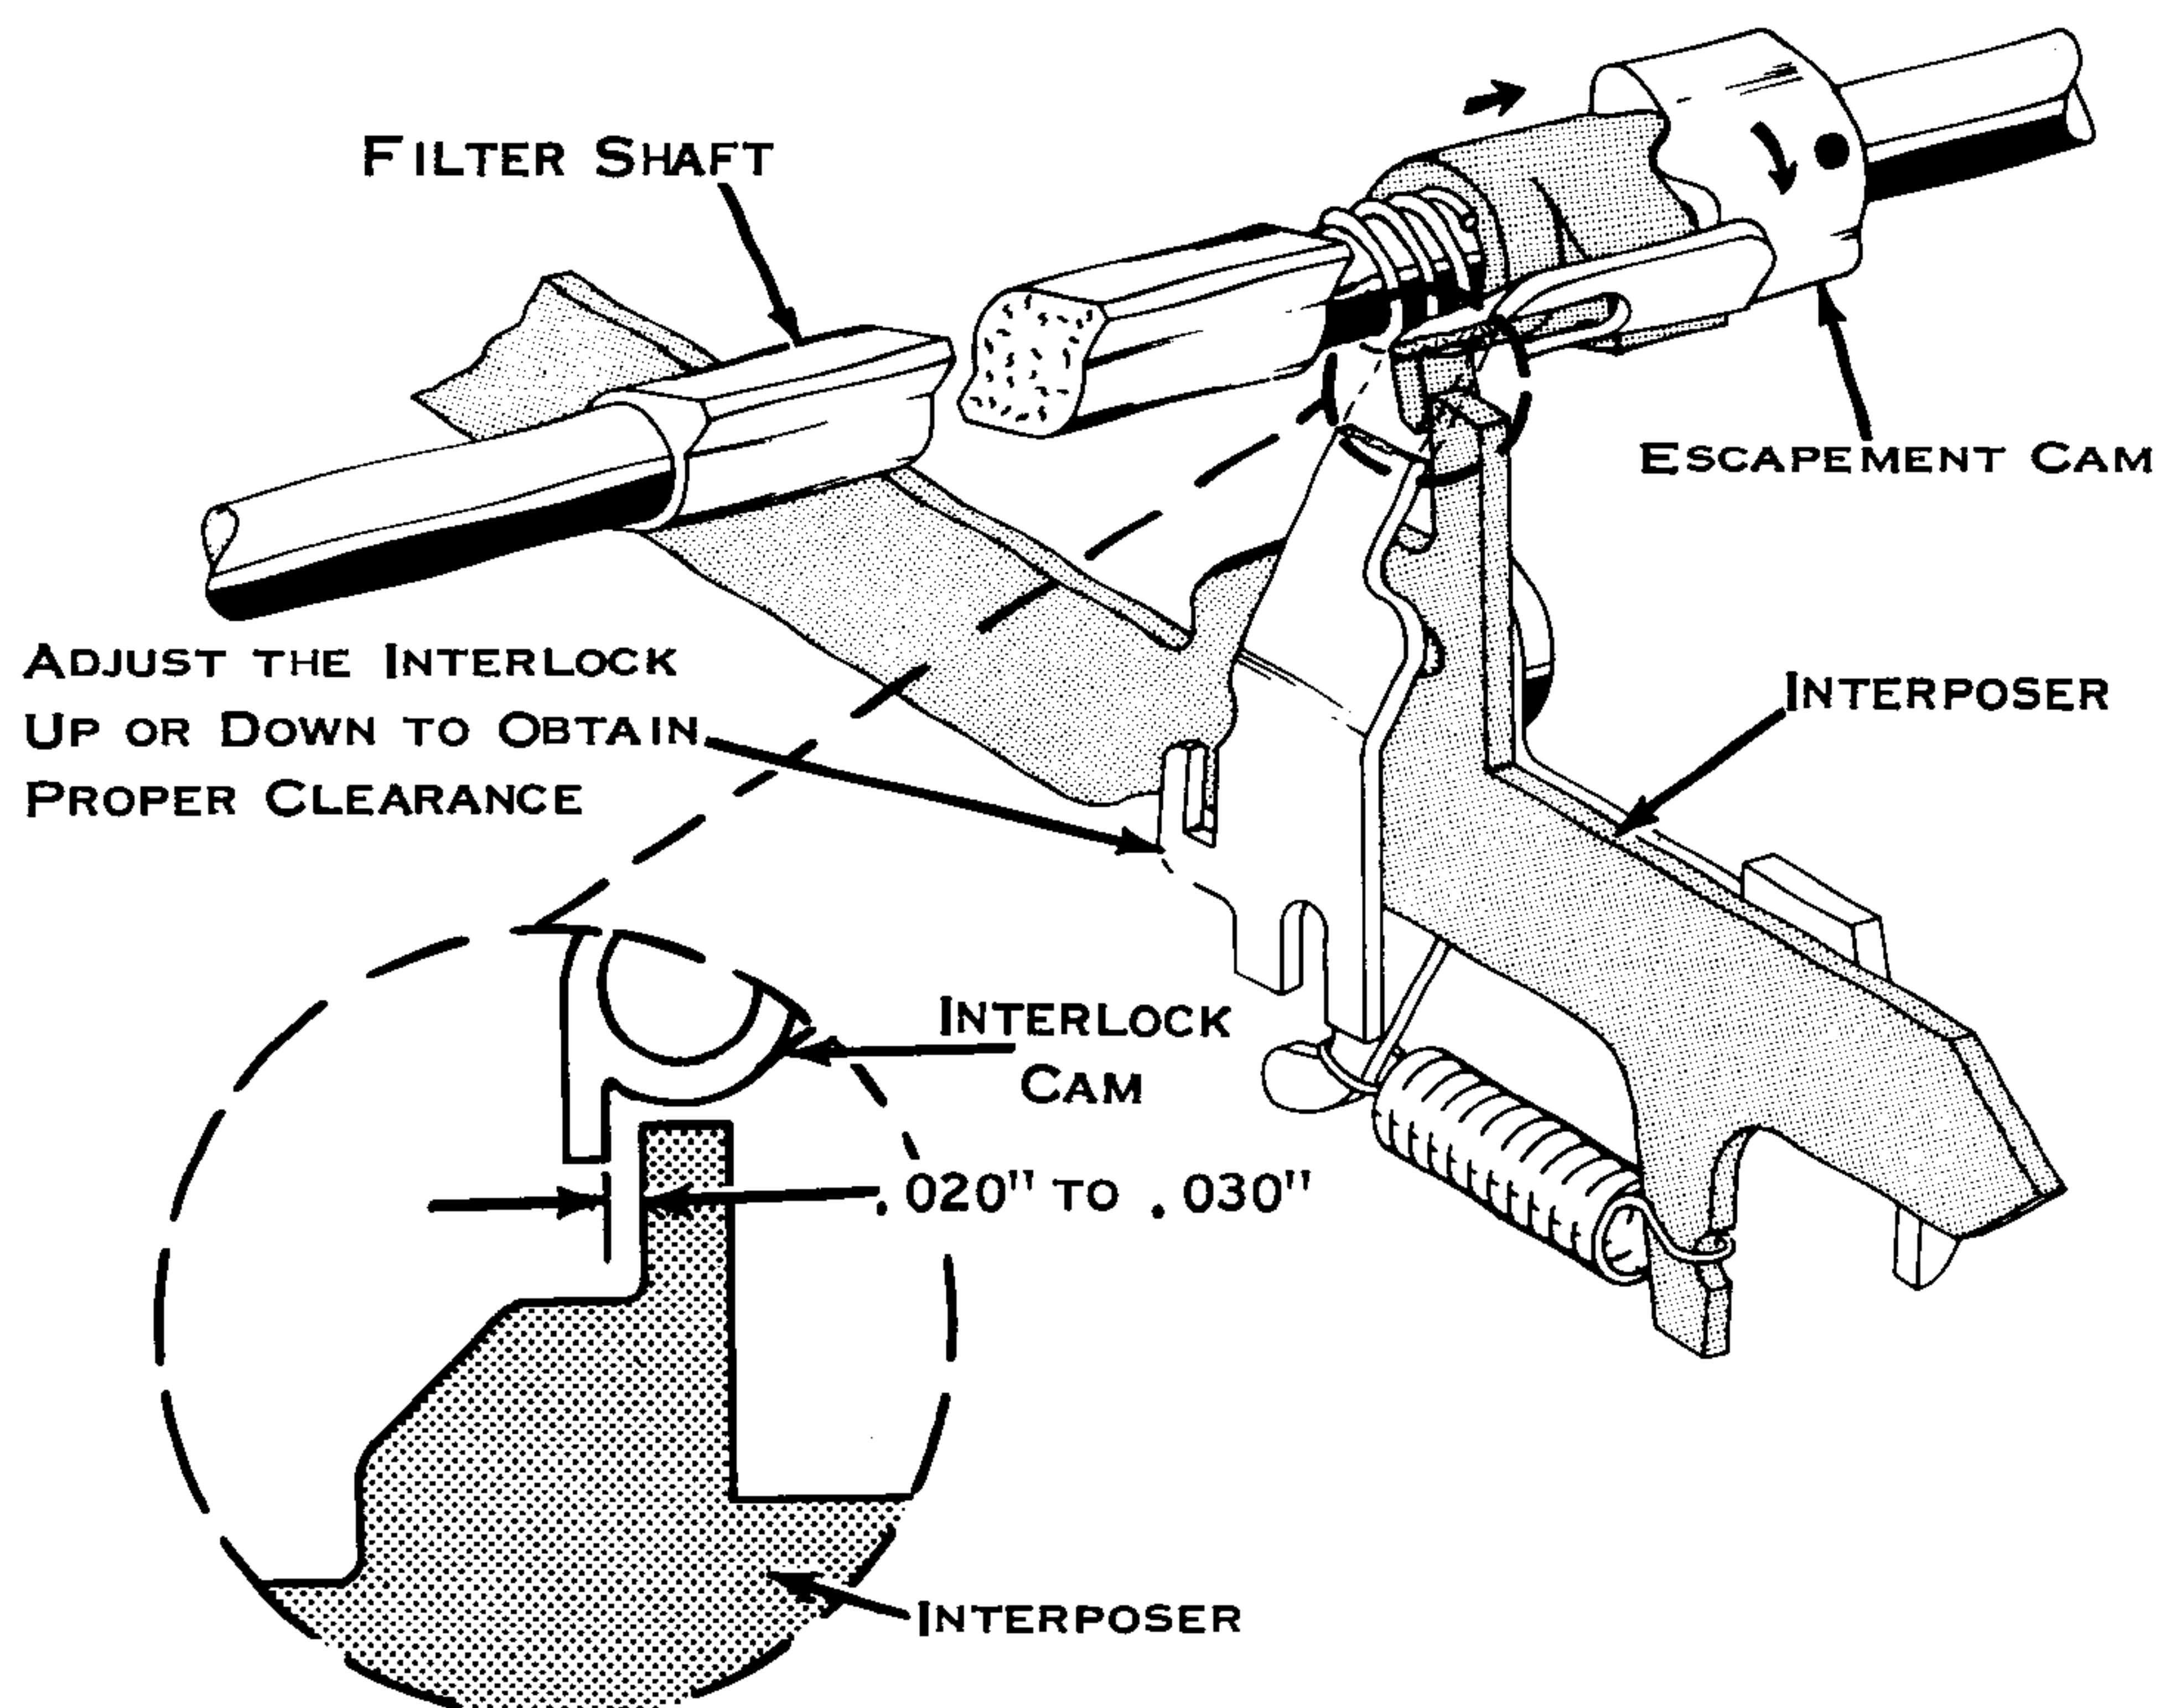

Figure 155. Interlock Cam Stop (Old)
- b. Interlock Cam Stop (Fig. 155) - The stop should be adjusted up or down so that a tripped spacebar interposer will be allowed to move to the rear .020" to .030". The filter shaft should be rotated until the interlock cam moves fully to the right. Check this adjustment by looking for a clearance of .005" to .020" between the spacebar interposer and the clutch release arm when the spacebar is operated and the lockout prevents its rear travel.